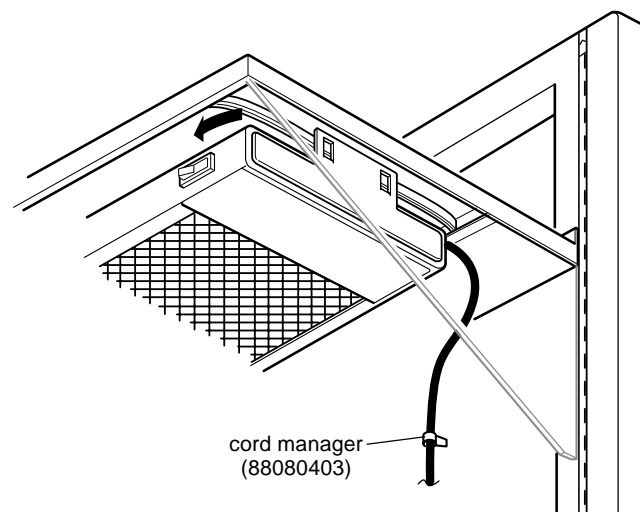

Figure 3
4. Insert two (2) spring bars (88081602 for shelves or 88081602-01 for storage cabinets) per side through lances on mounting plates.
5. Under installed shelf, place back tips of spring bars over rear lip or middle Z bar of shelf. Push Task Light towards back of shelf. Gently bend front tips of spring bars and engage them over shelf's front lip. Straighten bars and position light under shelf. (Figure 3)